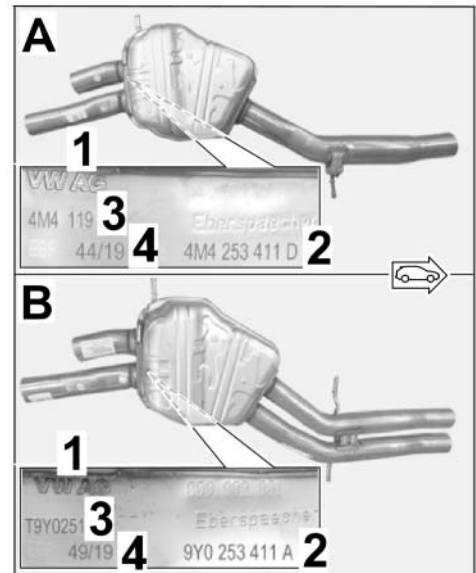

*Figure 5*
– Front silencer WITHOUT PPF (⇒ *Figure 5*):